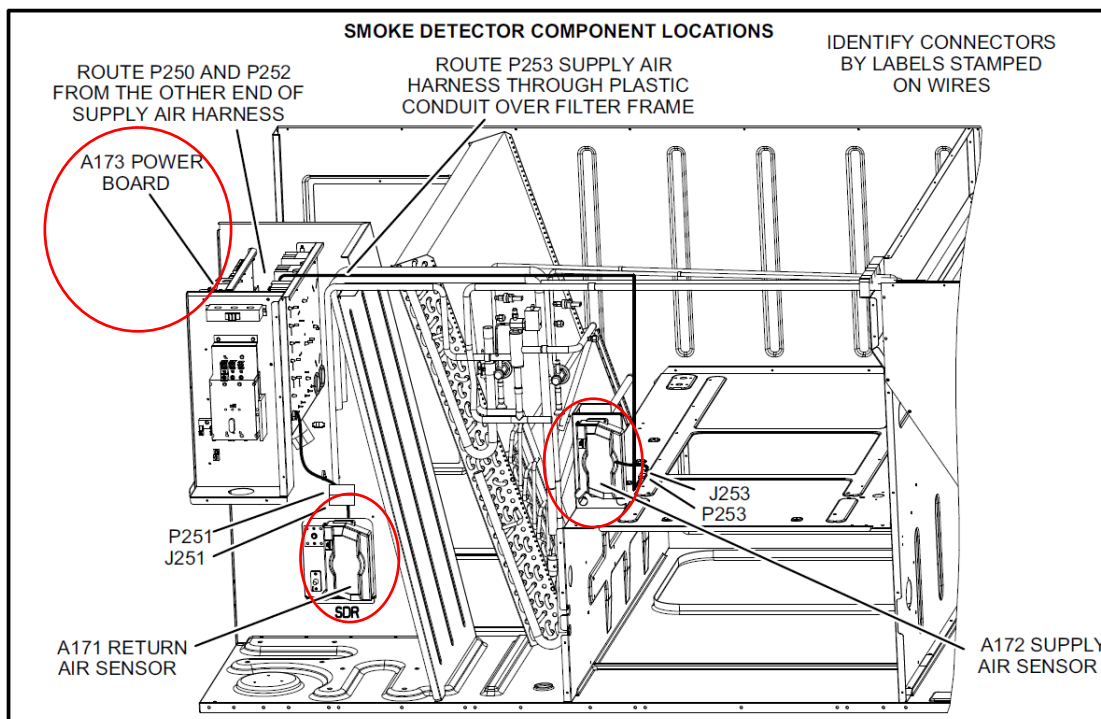

Figure 1. Smoke Detector Kit Component Locations
- a. Refer to the D4P120 & D4S Smoke Detector Kits Installation Manual –506437, or Figure 1 below, for approximate smoke detector kit component locations.